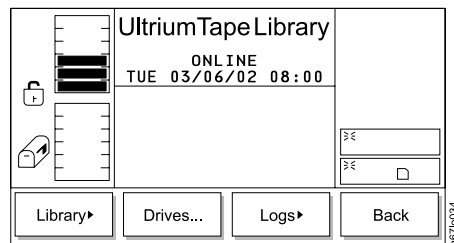

Figure 88. Status Menu
1. From the Main Menu’s initial screen, press the button below the **Status** softkey. The Status Menu displays (see Figure 88).